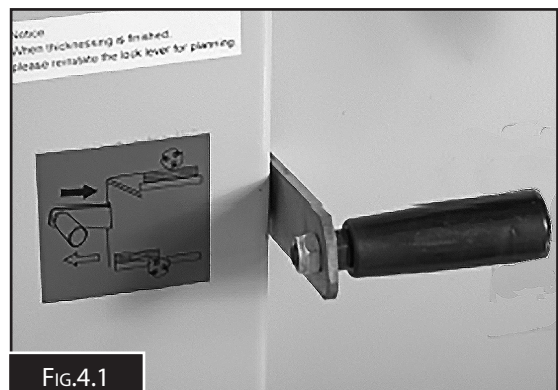

FIG.4.1
1. Lower the surface tables and re-mount the fence assembly. Check the machine is set up correctly, see the section for setting up the machine. Press down the locking lever to engage the planing function. (Fig.4.1)
3. Raise the locking lever to engage the thicknessing function. (Fig.4.1)